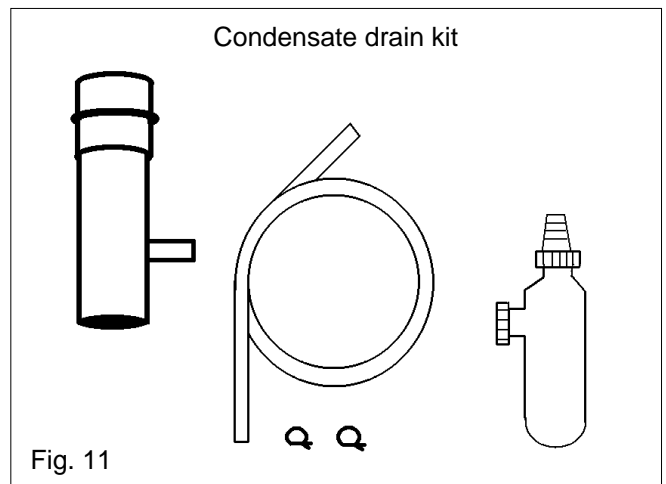

Fig. 11
4.5.3.2 INSTALLATION OF CONDENSATE DRAIN KIT (fig. 11)